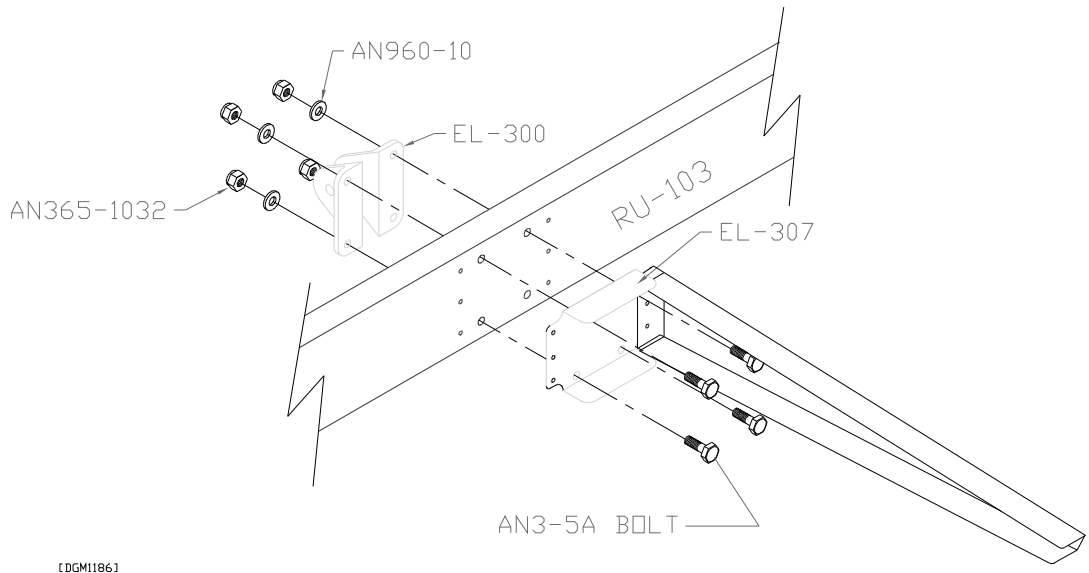

Figure 4.1.2
- 5) Drill all the #40 holes to #30, disassemble, debur, chromate and rivet the Spar Rib assembly together using 1/8” avex rivets (RV-1410). **NOTE:** Do not rivet the ribs that are called out for clecos in figure 4.1.1. Bolt the Elevator/Rudder Hinges to the Spar assembly using the prepunched alignment holes. Figure 4.1.2.